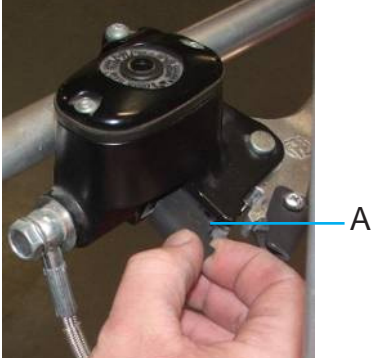

Figure 4
4. Slide the latching section of the new pawl assembly in place as shown in Figure 4. Install the latching section in place and secure it using lock washers (F,G) and blue thread locker, applied 3/16" to 5/16" from the head and end of the screw. Note: A small pin or drill bit can be used to align the latch block with the master cylinder holes.